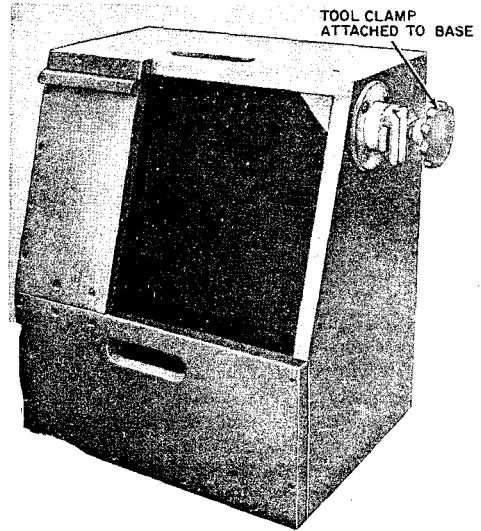

Fig. 12—Tool Clamp Attached to Base
4.03 Figures 12 through 17 illustrate the various tools mounted on a few of the different configurations of the 710A tool mounting.